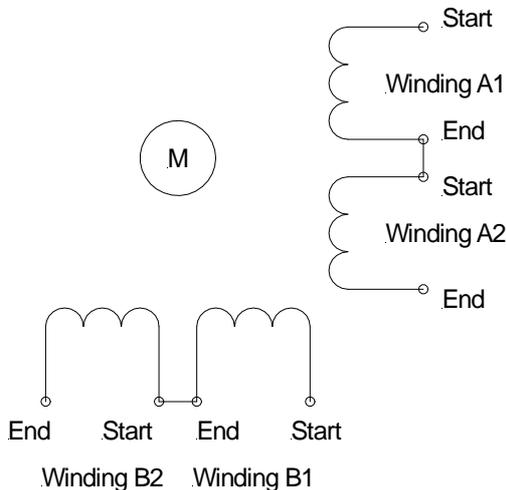

Figure 8. 8-wire motor, series connection
- Connect each pair of windings in series (this effectively turns the motor into a 6-wire motor) as illustrated in Figure 8. The motor current for winding A is then applied between the start of winding A1 and the end of winding A2, and similarly, the motor current for winding B is applied between the start of winding B1 and the end of winding B2;